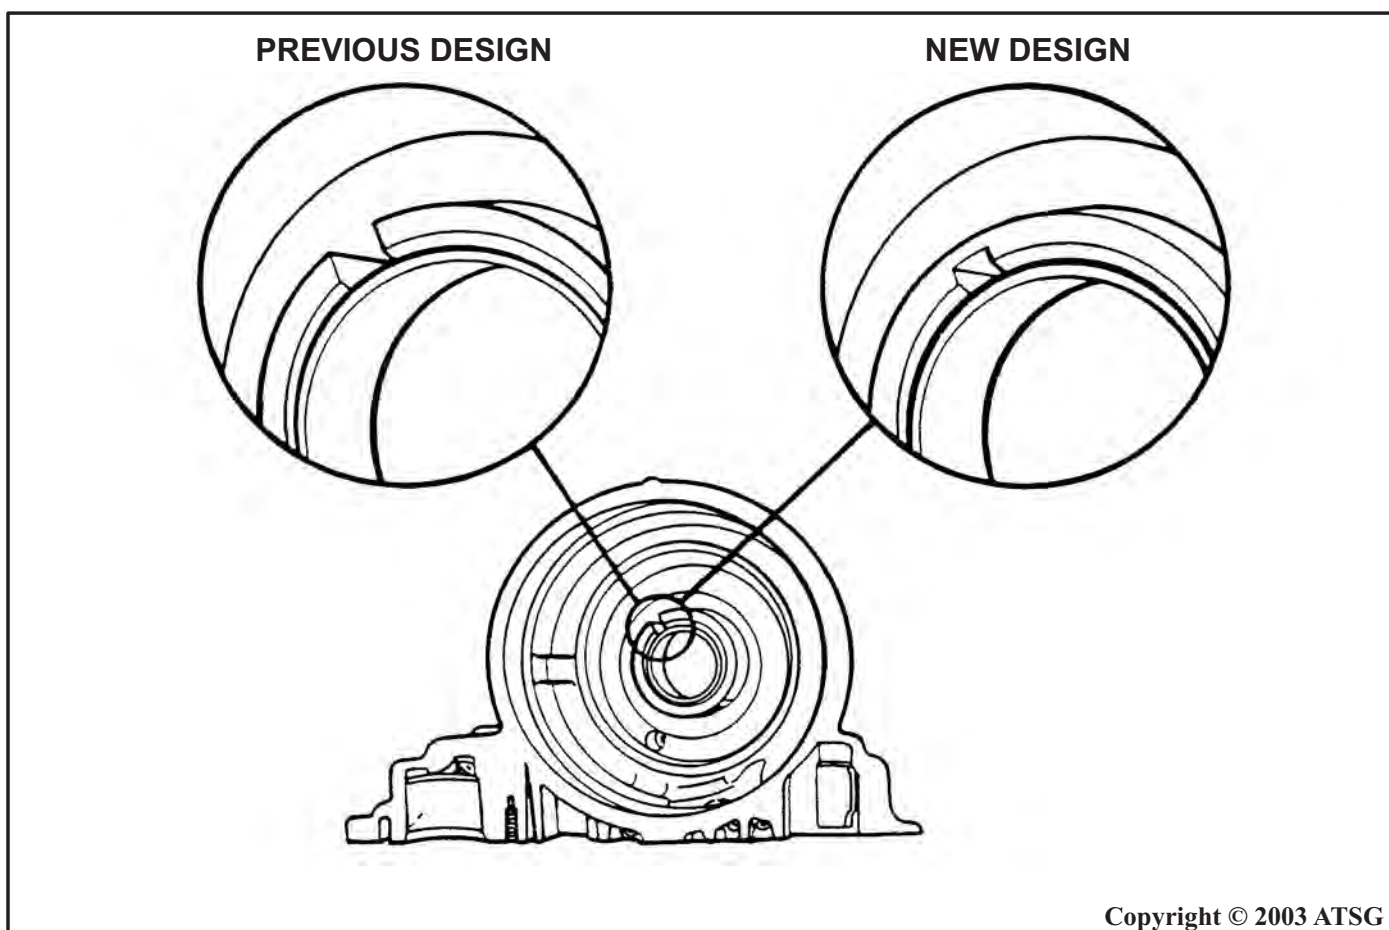

Figure 58
CHANGE: Beginning on February 9, (Julian Date 040) 1988, the transmission case hub, at the low and reverse piston area changed, as shown in Figure 58.
- (1) TRANSMISSION CASE - The slot located in the case hub at the low/reverse clutch piston no longer extends through the hub, as shown in Figure 58. When servicing 1987 and previous model transmissions, it was possible to remove the snap ring with a screwdriver through the slot. With the new design case change, the snap ring *must* be removed with snap ring pliers.